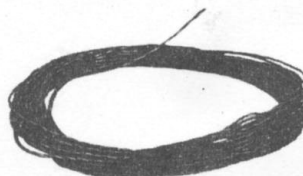

Fig. 2—Dispensing Twisted Cross-Connecting Wire or Block Wire
- (1) Place coil flat on floor so that inner end will feed from coil in a counterclockwise direction.
- (2) Feed from center of coil (Fig. 2).